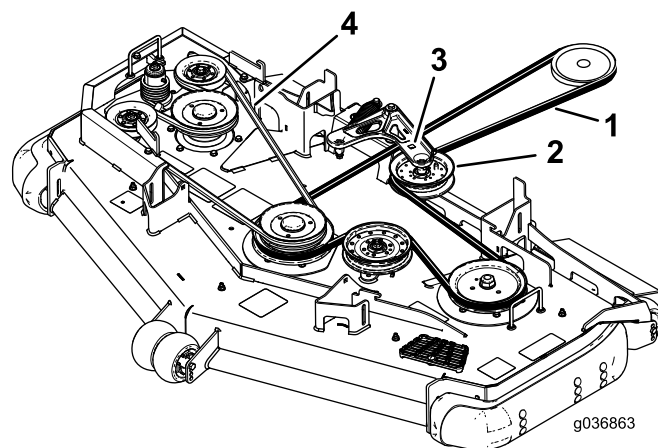

Figure 90
- Use a ratchet in the square hole in the idler arm to remove tension on the idler spring (Figure 90).
- Install the new belt around the mower pulleys and the clutch pulley under the engine (Figure 90).
- Using the ratchet in the square hole, install the belt around the spring-loaded idler pulley (Figure 90).